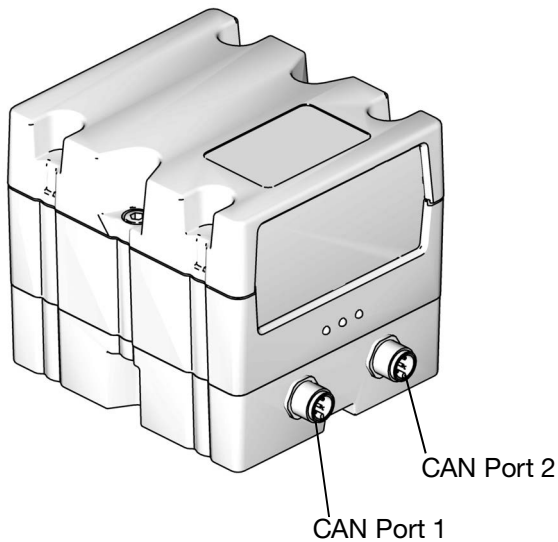

FIG. 32: CGM CAN Connections
10. Connect the other end of the CAN cable to either CAN port 1 or 2 on the CGM. See FIG. 32. It can be connected to either port.